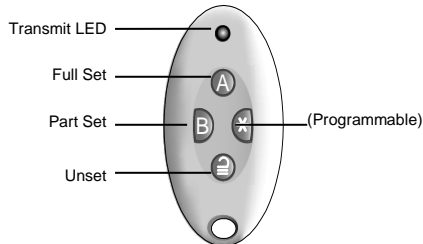

Figure 8. Remote Control Button Functions.
1. Press the appropriate button on the remote control, either full set (A) or part set (B) (see Figure 8).